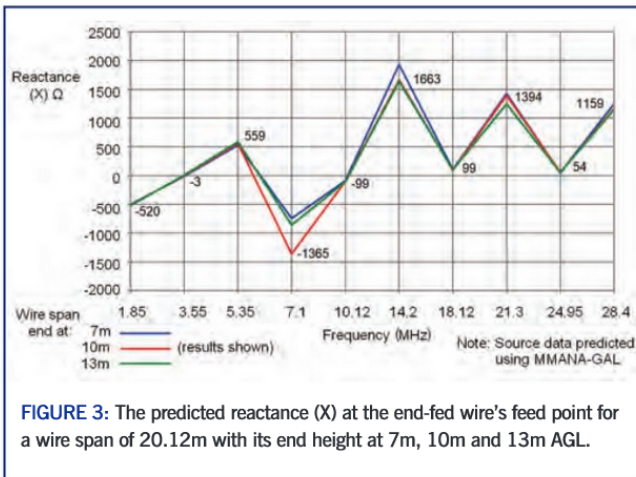

FIGURE 3: The predicted reactance (X) at the end-fed wire's feed point for a wire span of 20.12m with its end height at 7m, 10m and 13m AGL.
The model predicted the wire span's end (feed point) as having a reactive impedance that changed between being inductive or capacitive depending on the frequency applied. Figure 3 indicates how the reactance (X) varied at individual frequencies from 1.85MHz to 28.4MHz as the wire end's height was modelled at 7m AGL (shown as the blue line), 10m AGL (red line) and 13m AGL (green line). To give an indication of X at the feed point, the values when the antenna was at 10m AGL are shown.